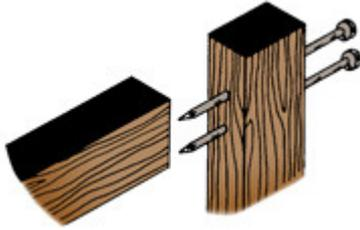

FIG. 1 - A simple butt joint is formed by nailing or screwing two ends together.
- The simple butt joint is most commonly used (Fig. 1). This joint is formed by nailing or screwing the end of one piece of wood to the end of the other. While this is simple, fast and effective, the butt joint cannot be used on many types of end joints.
- Again, the standard butt joint is the most commonly used (Fig. 1).